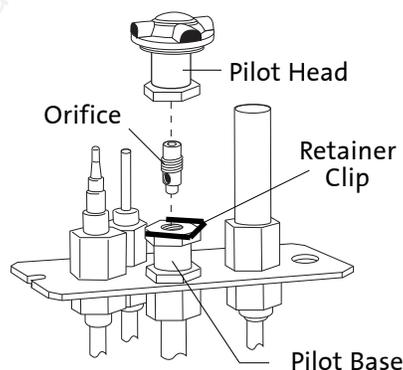

Figure 17. Pilot orifice removal and replacement.
10. **CHANGE THE PILOT ORIFICE: From within the firebox, remove the Pilot Head by pulling it straight up from the pilot base.** See fig. 17.
11. Tighten orifice into the base of the pilot assembly. To prevent bypass leaks, be sure the orifice is secured tightly and flush with the base. Replace pilot head by pushing it down onto the pilot base. See fig. 17.